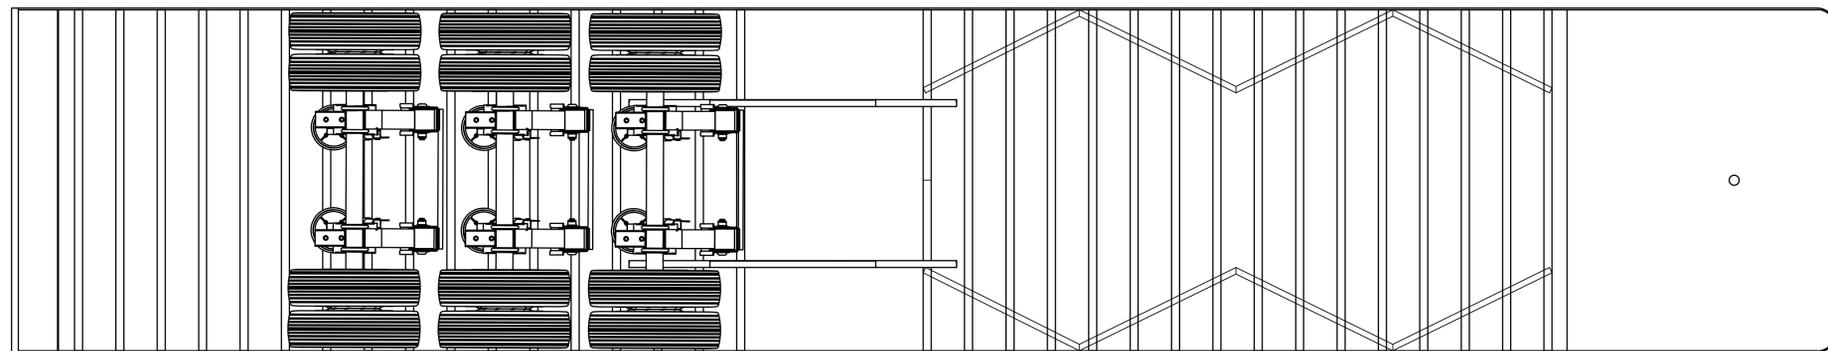

FIGURE 2: CROSS-MEMBER BRACING INSTALLED AND CROSS MEMBERS REMOVED FOR DRIVE GAP (BRACING PREVENTS TRAILER FROM TWISTING OR WARPING.)
3. INSTALLING BRACING AS SHOWN IN FIGURE 2 IS RECOMMENDED. IF THE TRAILER HAS FRAME RAILS RUNNING THE FULL LENGTH, THEN BRACING IS NOT REQUIRED. FLAT BAR OR STEEL ANGLE CAN BE USED FOR BRACING. IF FLAT BAR IS USED, MAKE A CROSS-BRACING, BECAUSE FLAT BAR WILL EASILY BUCKLE UNDER COMPRESSION. IF STEEL ANGLE IS USED, ENSURE THAT THERE IS ENOUGH WHEEL CLEARANCE. INSTALL BRACING TO THE DRIVE OPENING. WELD OR BOLT THE BRACES TO EACH INTERSECTING CROSS-MEMBER.